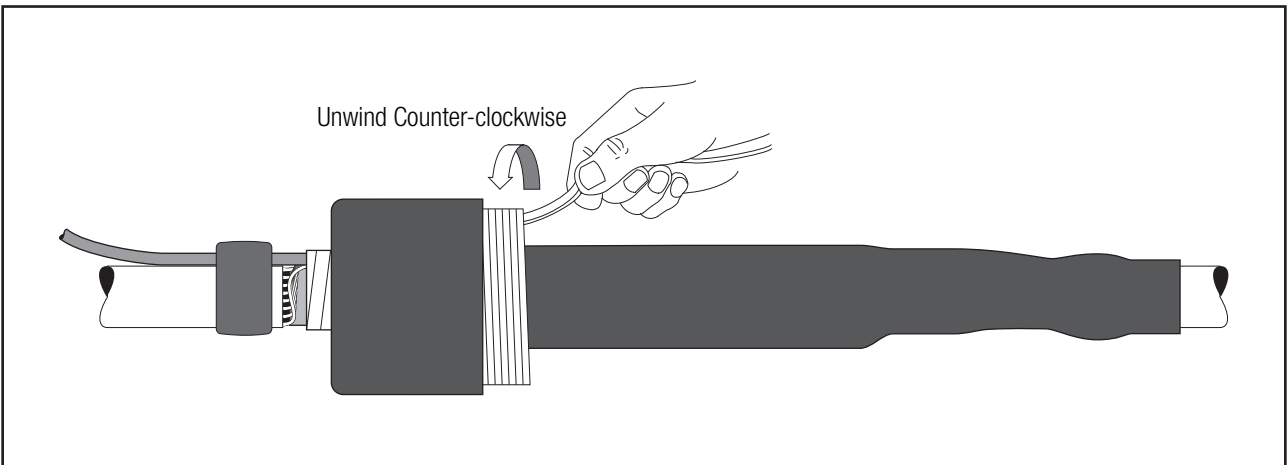

Figure 26
- 7.3 Continue to install the cold shrink tube over the rubber mastic on the other cable by slowly pulling and unwinding the outer core counterclockwise. This portion of the cold shrink tube installs differently than typical cold shrink products in that as the tube shrinks, the end rolls under. The tube may need a slight push to get over the second mastic seal (Figure 26).